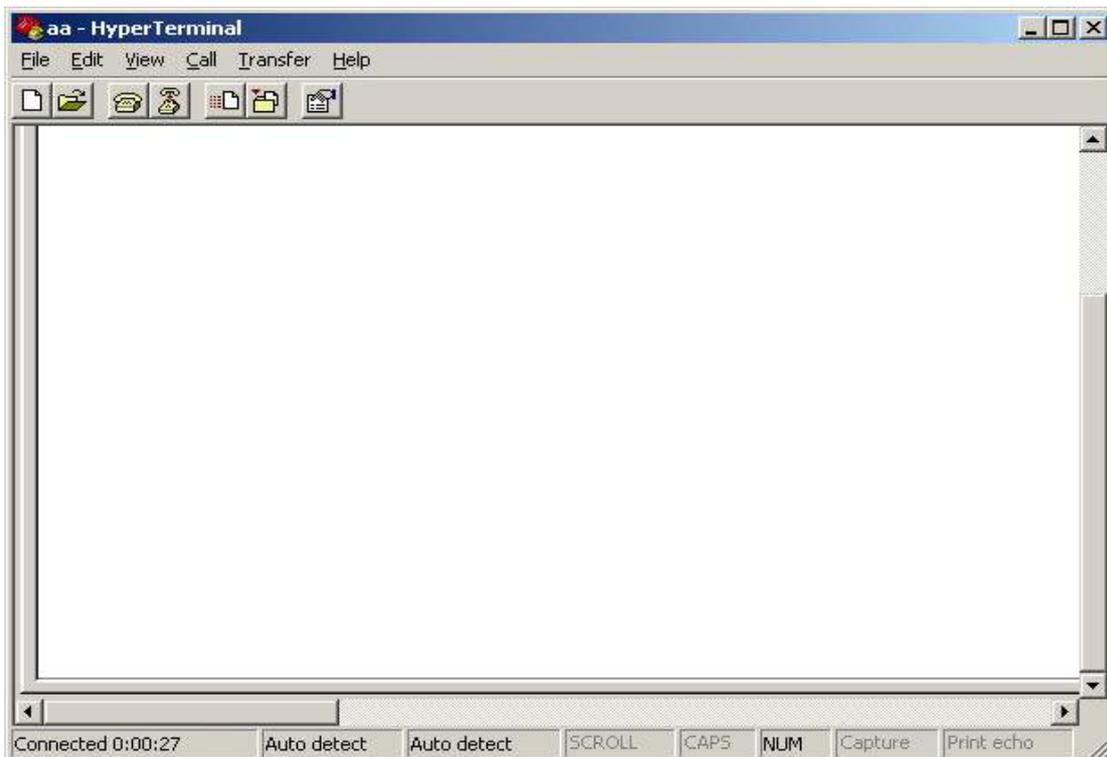

Fig. 3.1.4 Hyper Terminal Interface
**Step 4:** Serial port parameters setup. Set the serial port parameters as the following setup: Bits per second: 115200, Data bits: 8, Parity: None, Stop bits: 1, Flow control: None. Press “OK” after finish, the Hyper Terminal interface like Fig. 3.1.4 will appear